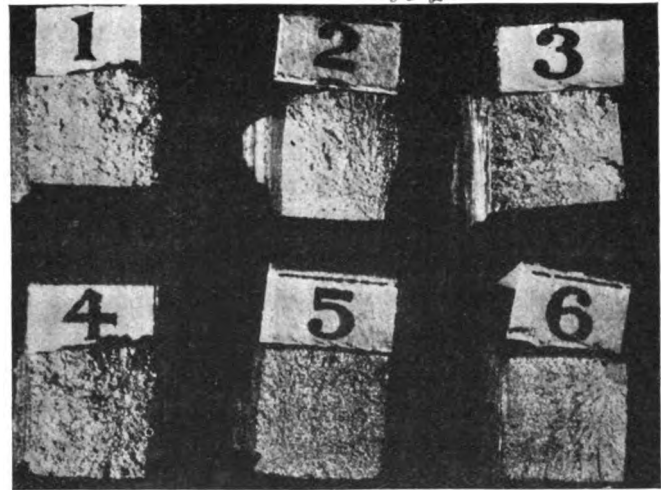

FIG. 7—SEVERAL SPECIMENS OF TOOL STEEL THAT WERE SUBJECTED TO DIFFERENT TREATMENT
rough timber and iron. The same materials were supplied that any blacksmith would purchase, and from them the wagon was worked up. Fig. 7 shows specimens of tool steel that have been subjected to different treatments: (1) Heated to a bright yellow heat; (2) to a cherry heat and hammered until cold; (3) to a cherry heat; (4) to a white heat; (5) burned and worked at cherry heat; (6) burned, then worked down with a borax heat.